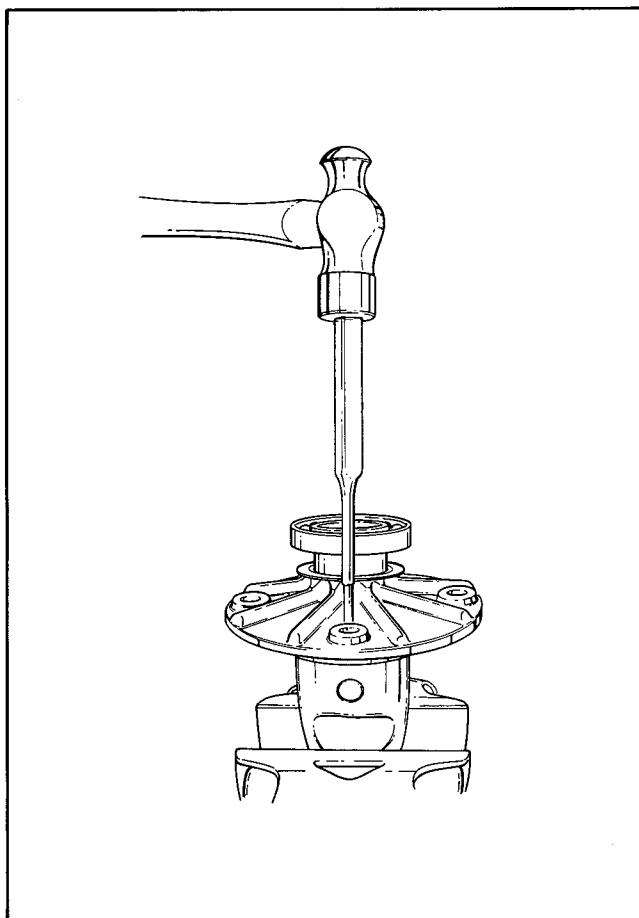

Figure 4-11 – Driving Out Lock Pin
- m. Drive out lock pin (9) which secures pinion mate shaft (14) to differential case (10). See Figure 4-11.